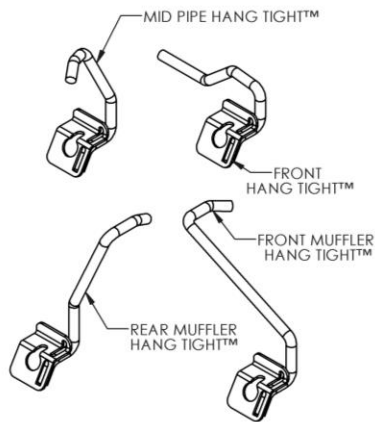
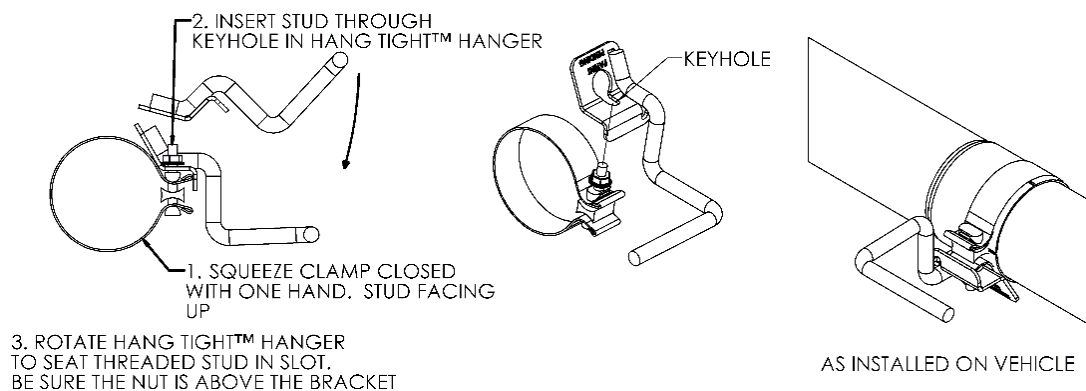

Figure 1
Figure 2
2. Install the **Front Hang Tight™ Hanger** (see figure 1 for hanger clarification) onto a **4" Band Clamp** and the remaining **Hang Tight™ Hangers** onto **5" Band Clamps** using the procedure shown below (figure 2). (Hang Tight™ Hanger not exactly as shown).